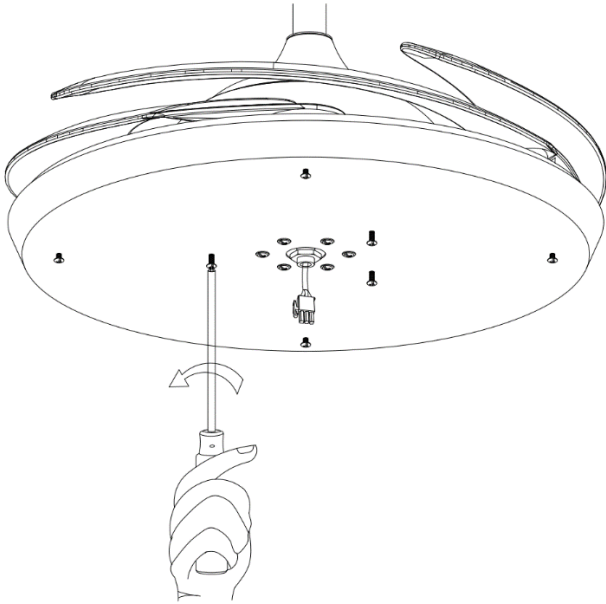

Fig. 9
1. Loosen the 3 pcs screws from the light kit bracket plate. (Fig. 9)